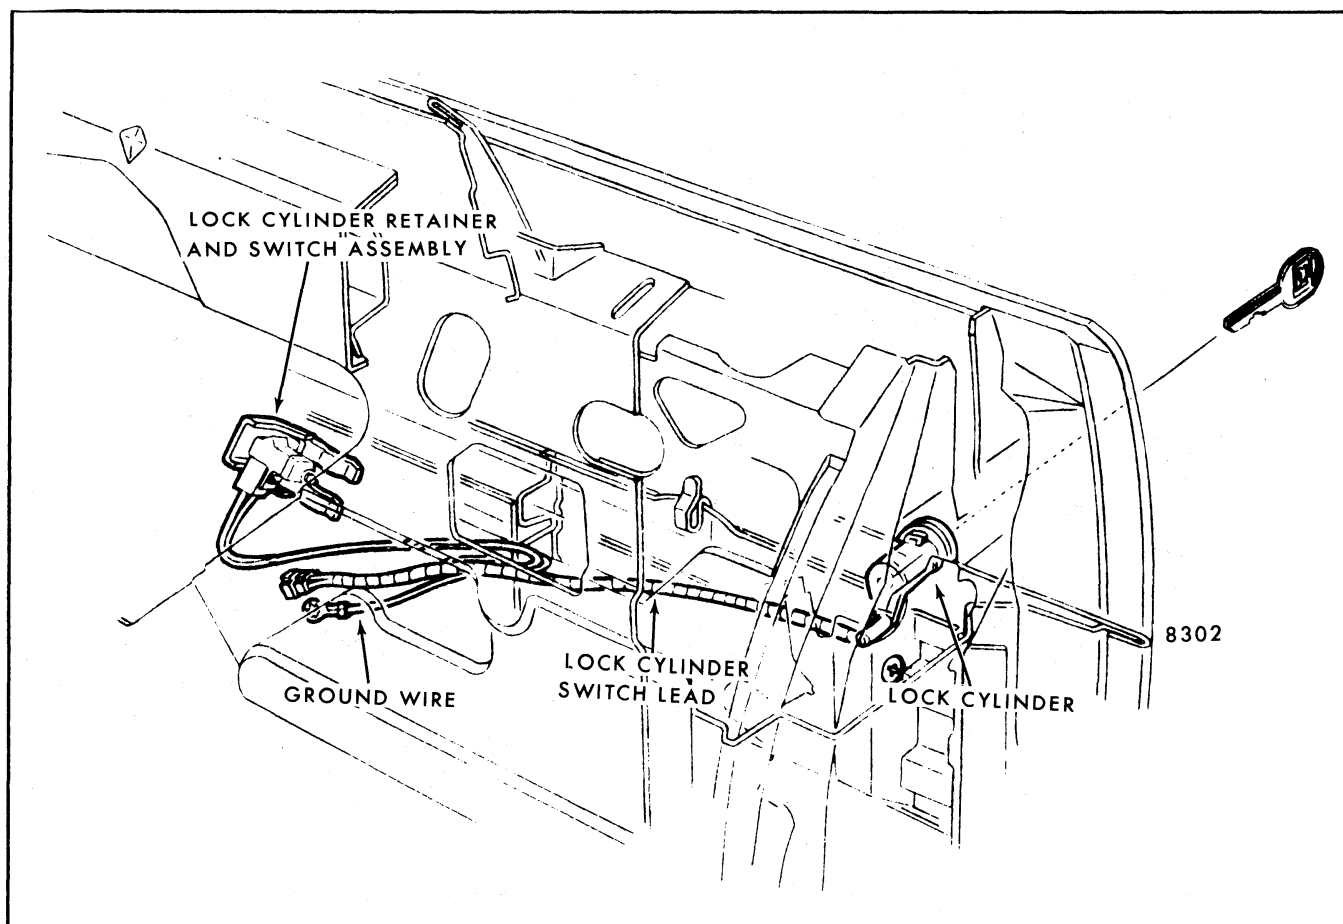

Fig. 5-94-Anti-Theft Door Lock Assembly
1. On "F, H and X" styles remove door trim pad. On "A, B, C and E" styles remove upper and lower portion of door trim assembly. Raise door window and detach inner panel water deflector. On styles equipped with anti-theft system disconnect wire at door guard beam (Fig. 5-94).